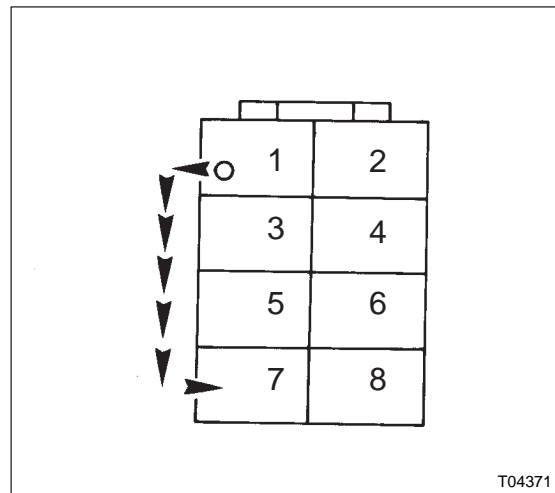

Figure 17: Connector of switch No. S112 and S130
- Looking at the open end of the connector, remove the terminal of the yellow and blue wire (S112) or the blue and yellow wire (S130) from slot No. 1 (see Figure 17) and insert it in slot No. 7